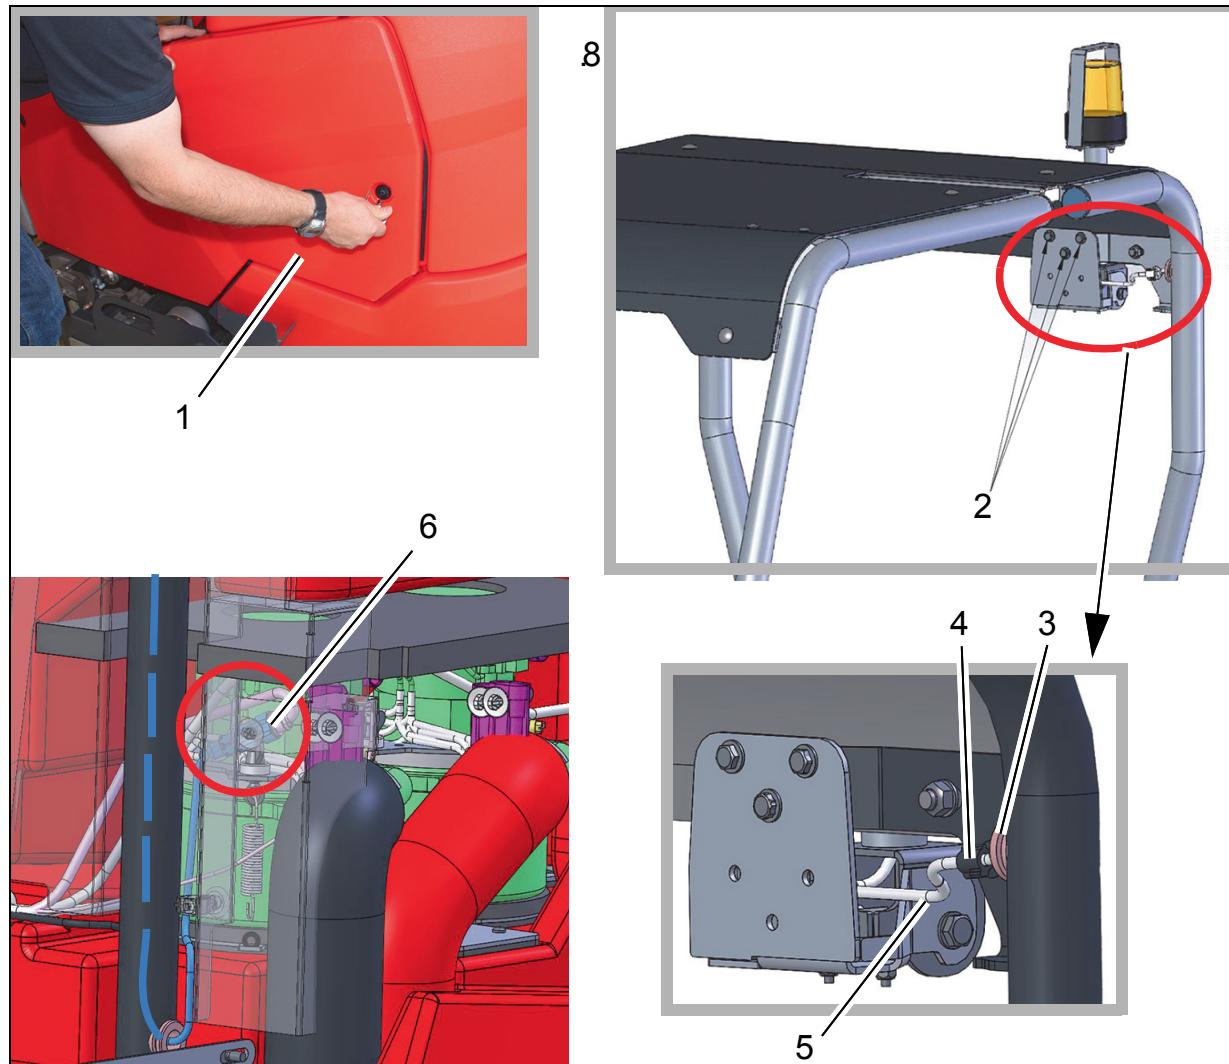

Fig. 2
1. Remove side panelling with provided wrench (Fig. 2/1).
2. The flashlight is fitted to the left rear overhead guard from the inside using the three M6x16 screws and the washers (Fig. 2/2).
3. Remove cable sleeve (Fig. 2/3) from tube. Lead plug of cable loom W 66 through the cable sleeve. Lead plug through opening of tube to lower opening in tube. Re-insert cable sleeve.
7. Connect X65 to plug of W 3 with the same name (Fig. 2/6). Secure plug to plate with cable ties.